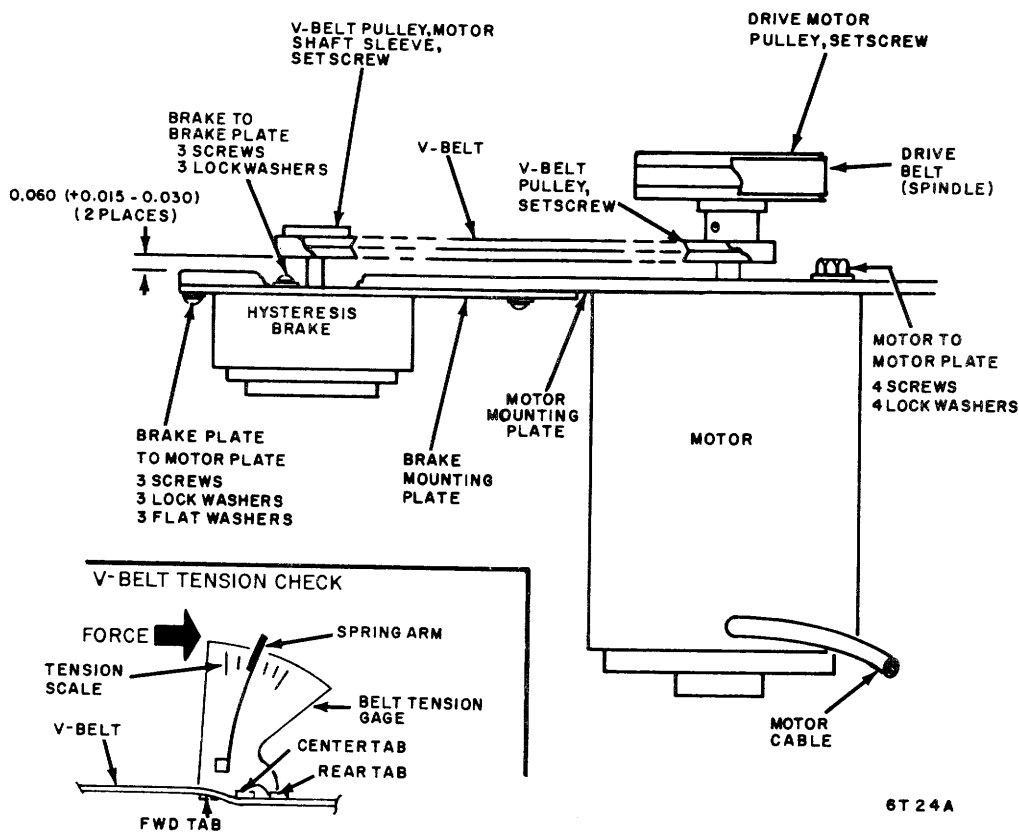

Figure 6-12. Motor and Brake Assembly
9. Loosen setscrew(s) and remove drive pulley (Figure 6-12) from faulty motor.
14. Set drive motor pulley (Figure 6-12) on motor shaft and allow it to slide down and contact V-belt pulley.
18. Place V-belt between forward and center tabs of belt tension gage (P/N 87390400) according to Figure 6-12. Use finger to press gage spring arm until rear tab just contacts belt. Spring arm must be at 14 (+6, -0) pounds on tension scale as rear tab contacts belt. Reposition brake mounting plate until requirement is met.
DRIVE MOTOR PULLEY REMOVAL AND REPLACEMENT (Figure 6-12)
10. Check that required dimension exists between bottom surface of V-belt pulley on motor shaft and top surface of motor mounting plate, Figure 6-12. If requirement is not met, loosen V-belt pulley setscrew(s), reposition pulley along shaft. Apply one drop of Loctite, Grade C, to setscrew(s) threads. Torque setscrew(s) to 75 ± 5 in-lbs.
11. Set replacement pulley on motor shaft (Figure 6-12) allowing it to slide down and contact V-belt pulley.
HYSTERESIS BRAKE OR BELT REMOVAL AND REPLACEMENT (Figure 6-12)
11. Replace hysteresis brake as follows (Figure 6-12):
- d. Assemble V-belt pulley (with motor shaft sleeve in hub) to brake shaft. Using a setscrew with one drop of Loctite on threads, establish the dimension specified in Figure 6-12 between the pulley and motor mounting plate and secure the pulley and sleeve to the shaft.
13. Place V-belt between forward and center tabs of belt tension gage (P/N 87390400) according to Figure 6-12. Use finger to press gage spring arm until rear tab just contacts belt. Spring arm must be at 14 (+6, -0) pounds on tension scale as rear tab contacts belt. Reposition brake mounting plate until requirement is met.